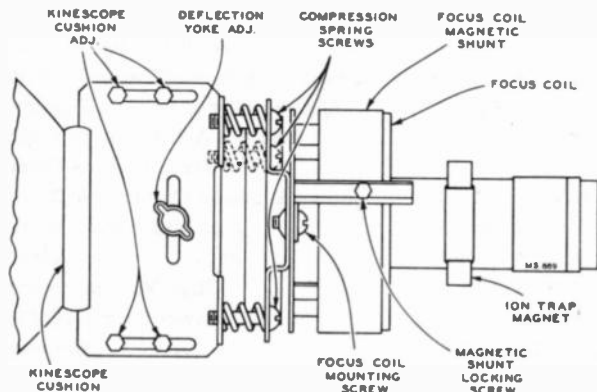

Figure 2—Yoke and Focus Coil Adjustments
**ION TRAP MAGNET ADJUSTMENT.**—Set the ion trap magnet approximately in the position shown in Figure 2, and with the part number on magnet towards the rear of the chassis. Starting from this position immediately adjust the magnet by moving it forward or backward at the same time rotating it slightly around the neck of the kinescope for the brightest raster on the screen. Reduce the brightness control setting until the raster is slightly above average brilliance. Adjust the focus control (R191 on the chassis rear apron) until the line structure of the raster is clearly visible. Readjust the ion trap magnet
The focus coil is provided with a magnetic shunt in the form of a metal sleeve as shown in Figure 2. If the receiver focuses with the focus control near the end of its range, loosen the shunt locking screw and slide the shunt backward or forward until focus occurs in the center range of the focus control.